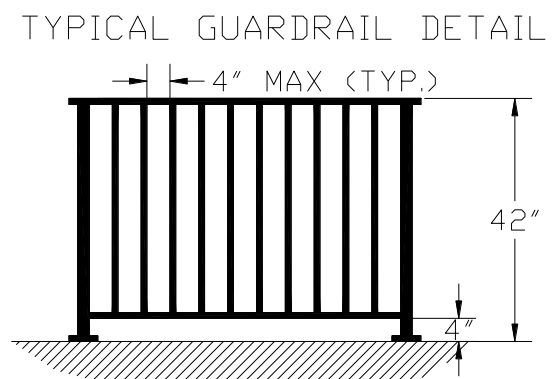

Figure 1: Platform Guard (Guardrail) Requirements
- Guards shall be continuous from 100 mm (4") through 1070 mm (3'-6" (42")). (Refer to Figure 1 below)